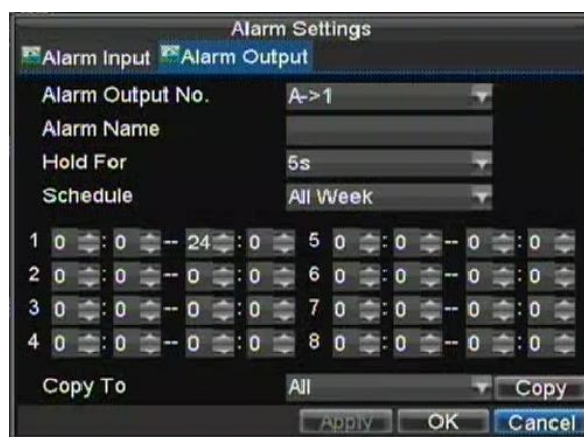

Figure 9. Alarm Output Settings
2. Select the output you would like to configure and click the Set button. This will bring up the settings page for the selected channel (Figure 9).